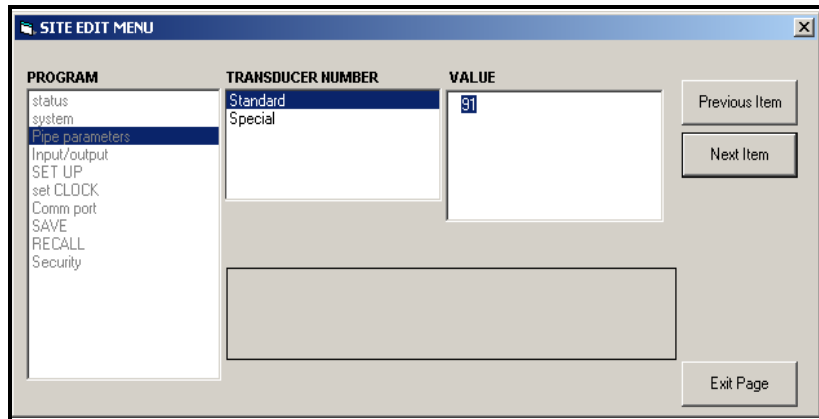

Figure 21: The Pipe Parameters Option in the Site Edit Menu
- a. Highlight and double-click on the desired option in the left pane. Figure 21 below shows the first entry (Transducer Number) in the Pipe parameters option. The title above the center pane lists the current entry, while the center pane displays the available selections for that entry.